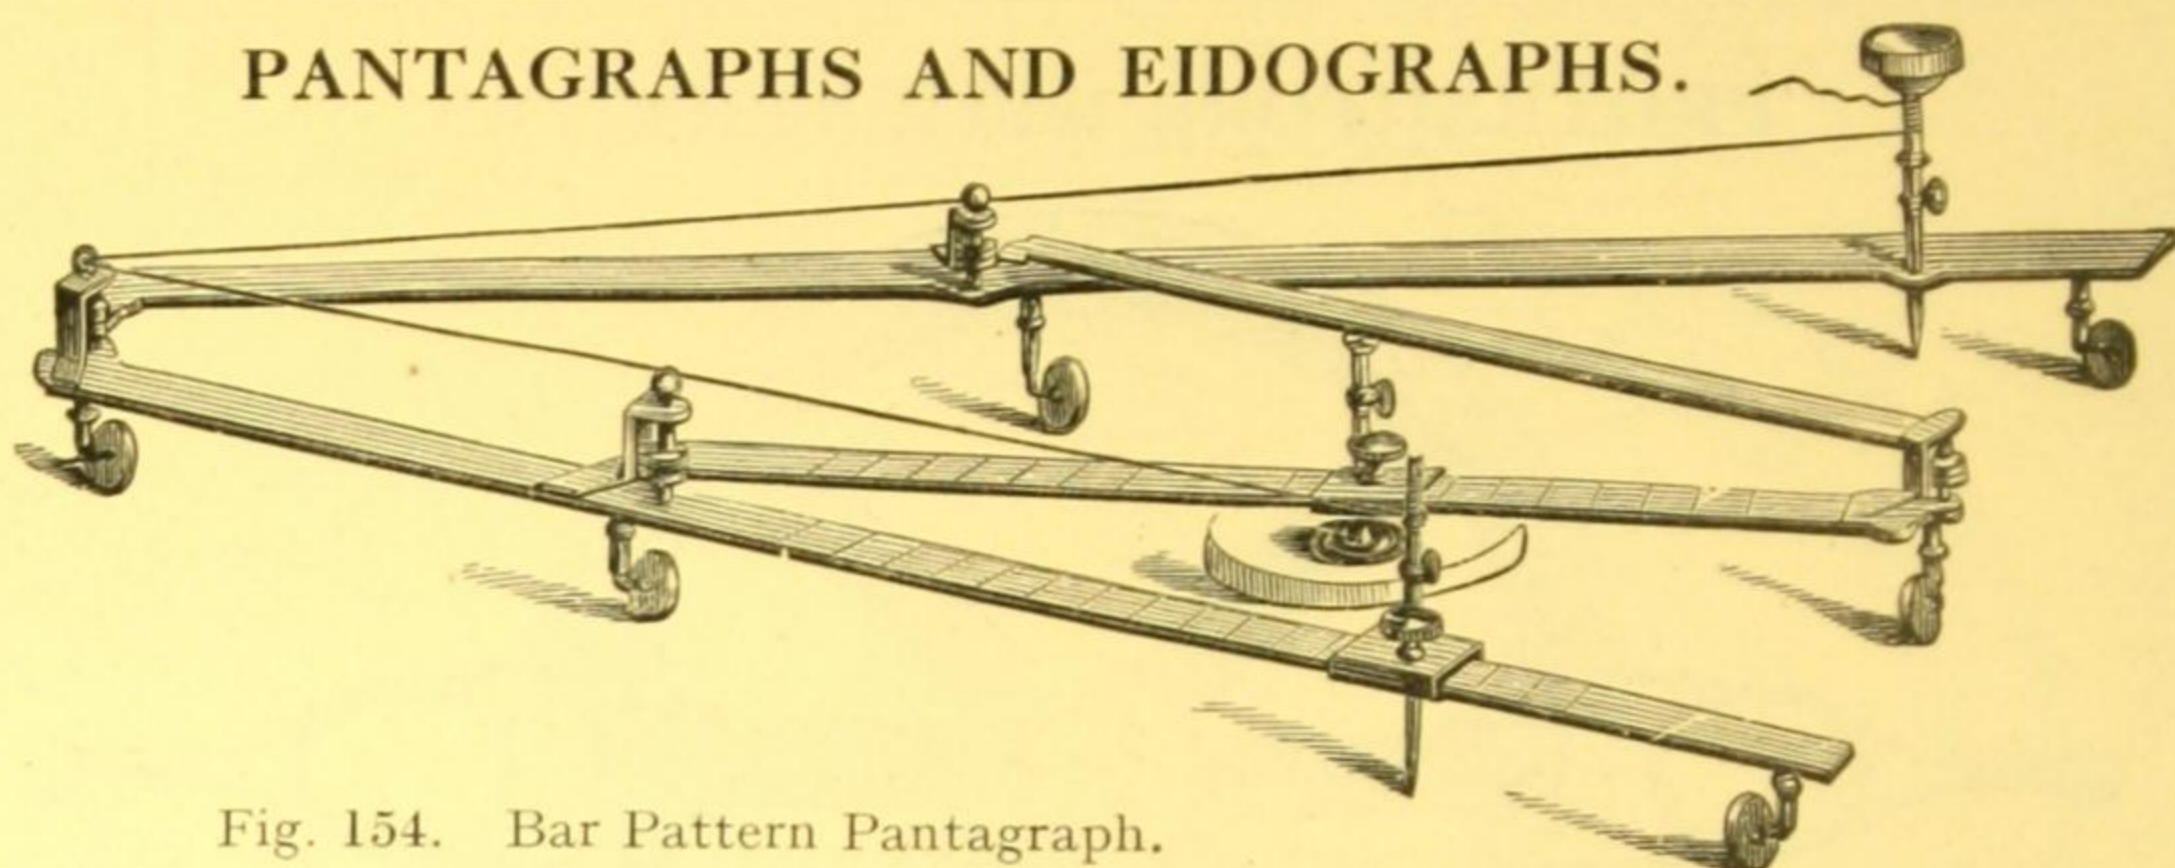

Fig. 154. Bar Pattern Pantagraph.
**The Pantagraph**, for reducing and enlarging plans. Scales of proportions engraved on arms. Sliding heads with sockets adapted to hold either pencil, tracer or fulcrum point, and fitted with clamps. Cord for raising pencil when it is required to pass over any part of the plan. The pantagraph is made in two patterns, the "bar pattern," as illustrated, Fig. 154, and the "tubular pattern." The arms of the latter are constructed of square brass tubes, and it is a lighter instrument and more free from friction and vibration than the "bar pattern" pantagraph.